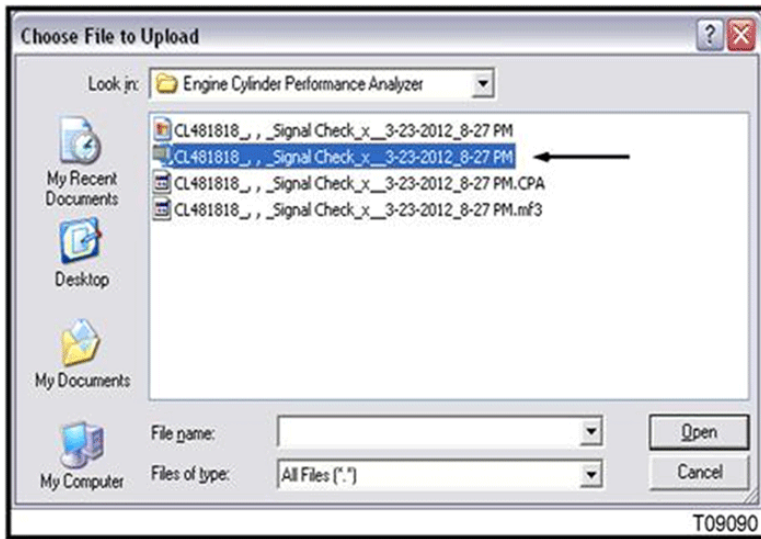

Figure 5
3. Select the WinZip File(s) from the appropriate test recording(s) (Figure 5).